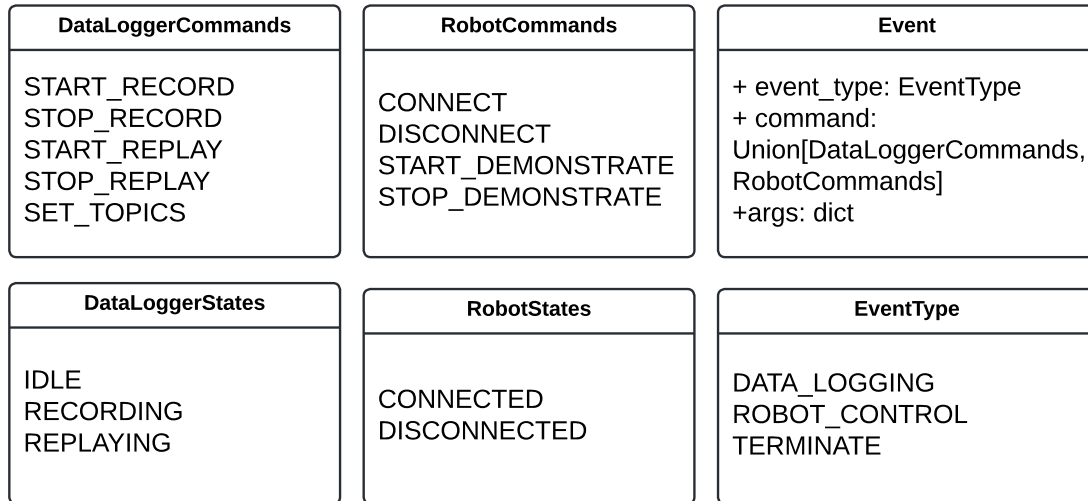

Figure 12: Event types, states and enums as Python Enums, Event as a Python class
- **Event, EventType, States, Commands - event implementation (Figure 12):**